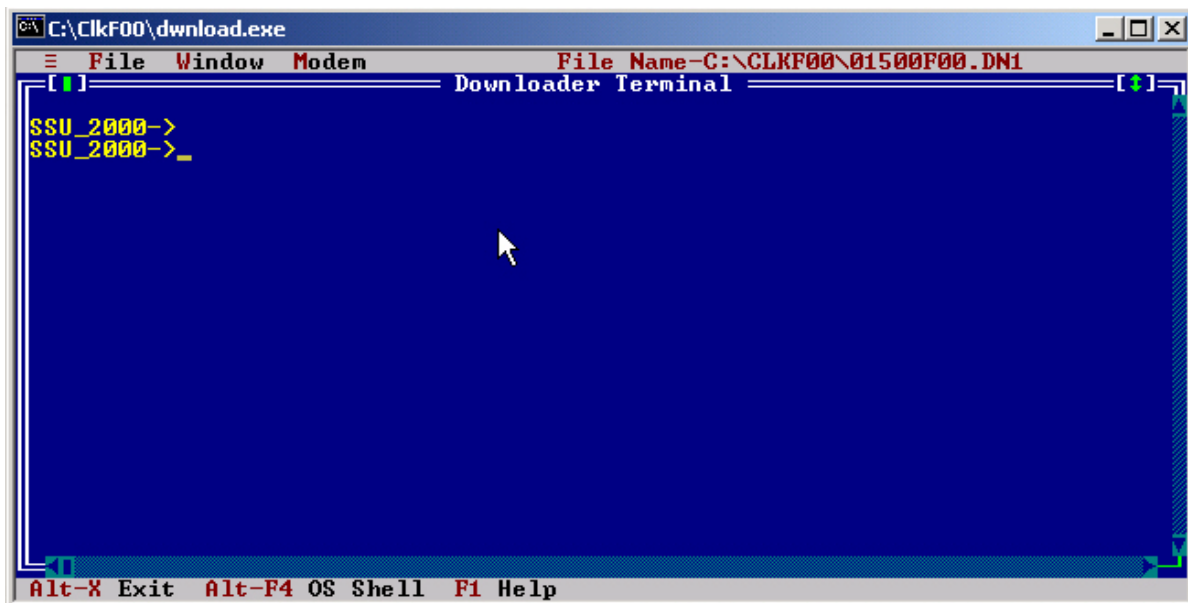

Figure H-3. Terminal Emulation Window
8. Select the File menu (or press Alt+F), and select the Terminal (or press the T key) option. A terminal emulation window appears, as shown in Figure H-3.
9. Press the **ESC** key. The prompt appears, as shown in Figure H-3.